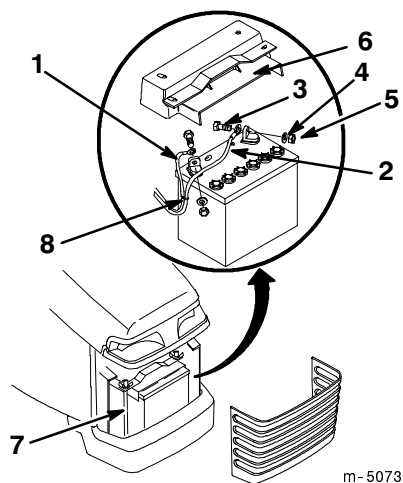

Figure 59
4. Remove the battery shield (Fig. 59).
5. Disconnect the negative (black) ground cable from the battery post (Fig. 59).
6. Disconnect the positive (red) cable from the battery post (Fig. 59).
1. Place the battery onto the chassis (Fig. 59).
2. Using the bolt, washer and locknut, connect the positive (red) cable to the positive (+) battery post (Fig. 59).
3. Using the bolt, washer and locknut, connect the negative (black) cable to the negative (-) battery post (Fig. 59).